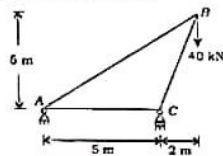

Fig. 1
2. (a) Evaluate the forces in all the members of the truss shown in Fig. 1 by method of tension coefficient.